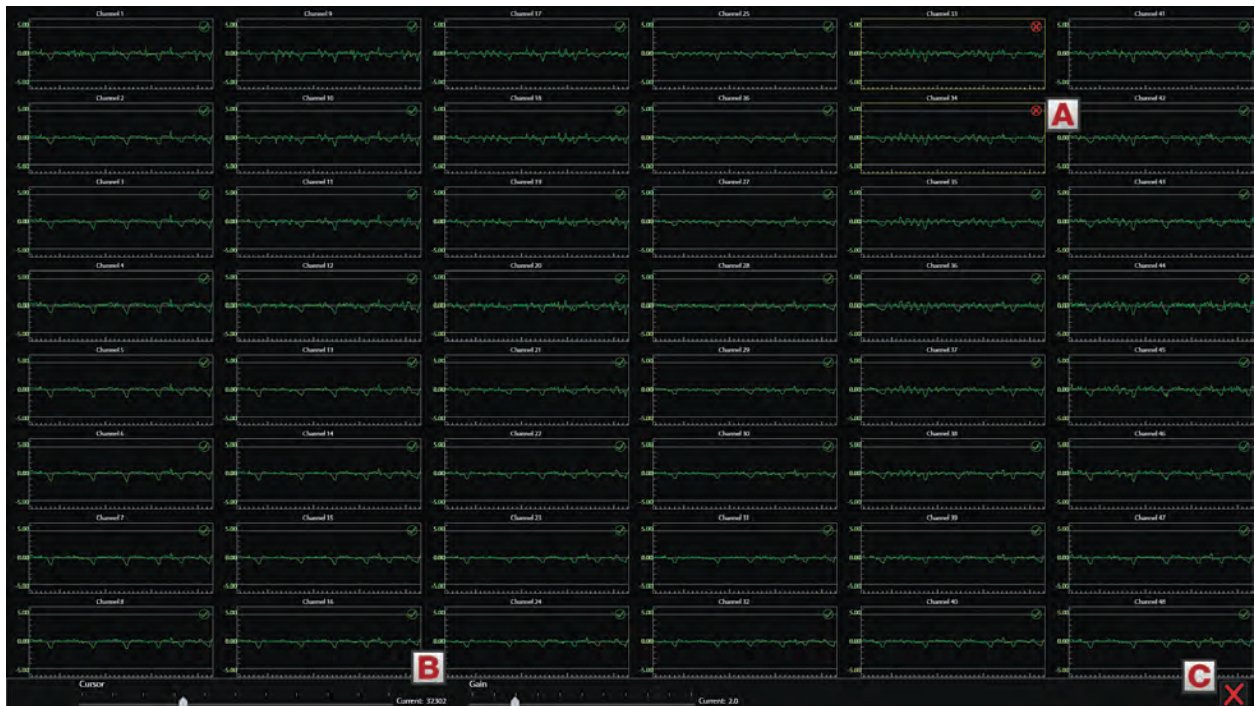

Figure 12-3. All-Channel AcQMap Grid View. A. Excluded channels. B. Cursor and Gain sliders. C. Return to Waveforms Window.
- Channels deemed to be performing poorly will be excluded by selecting the small checkbox in the upper right corner of each individual plot. Once marked, a yellow border will be displayed around the plot and the check-mark will remain. (Figure 12-3, A)
- Cursor and Gain sliders are located at the bottom of the screen. The Cursor slider can be used to simultaneously scroll through the displayed channels. The Gain slider is used to change the gain on all channels. (Figure 12-3, B)
- Clicking the “X” will close the Grid View Window and return to the Waveform Window. (Figure 12-3, C)